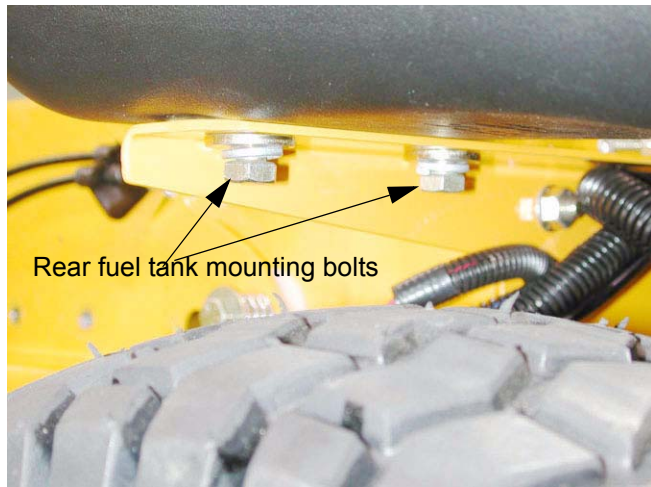

Figure 11.20
11.20. Loosen the bolts that hold the back of the gas tank to the frame at least three turns using a 9/16" wrench. See Figure 11.20.